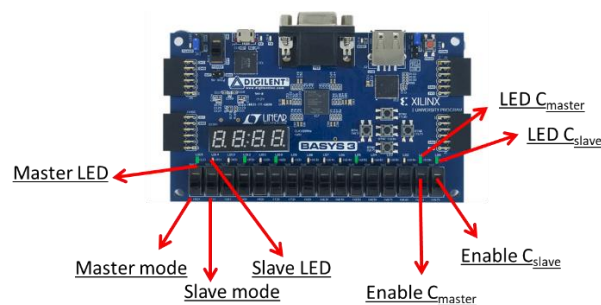

Figure 1: Master-Slave Mode Selection
3. Implement a master process module which will check "Master Mode" user switch (Figure 1), if Master mode is active according to Table 1 than the process will increment C_{master} counter, and also the process will drive the "Master LED" with a period of 2 sec, %50 duty cycle.
will be **ON**. “Enable C_{master} ” and “Enable C_{slave} ” user switches (Figure 1) will be used in order to enable or disable the corresponding counter operation.
- Implement a slave process module which will check both “Master Mode” and “Slave Mode” user switches (Figure 1) if “Slave Mode” is selected according to the conditions given in Table 1, then the process will increment C_{slave} counter as described above, and also the process will drive the “Slave LED” with a period of 1 sec, %50 duty cycle.